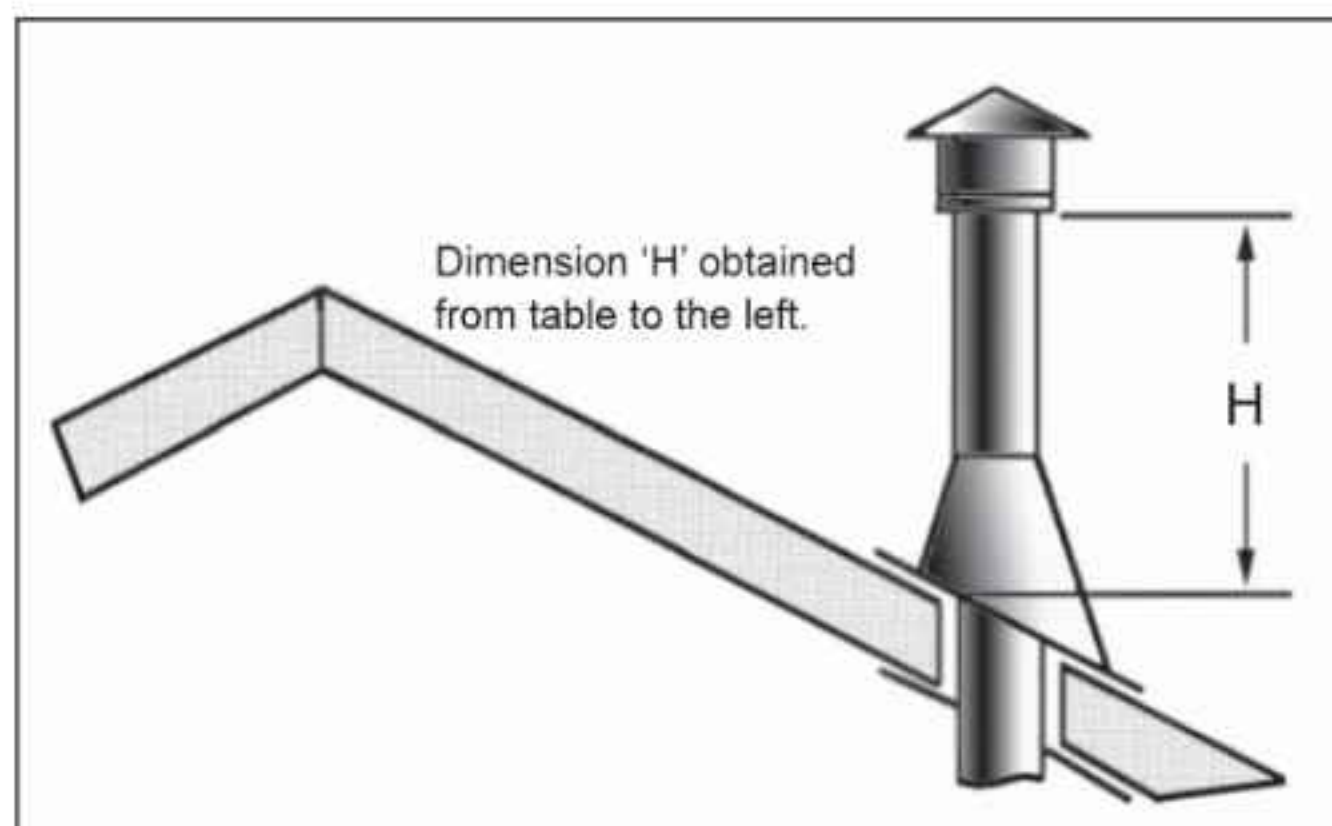

Figure 44: Height of Vertical Termination; Reference Table 5.
**Step 7.** Continue to add Pipe Sections until the height of the Vent Cap meets the minimum building code requirements described by your local codes. In the absence of local codes, make sure the terminal is 2 feet (610mm) above anything within 10 feet (3046mm) of the vent (refer to Figure 44 & Table 5 for clearances for different pitches). Note that for steep roof pitches, the vent height must be increased. In high wind conditions, nearby trees, adjoining rooflines, steep pitched roofs, and other similar factors can result in poor draft, or down-drafting. In these cases, increasing the vent height may solve this problem.
Table 5: Minimum 'H' for Figure 44.